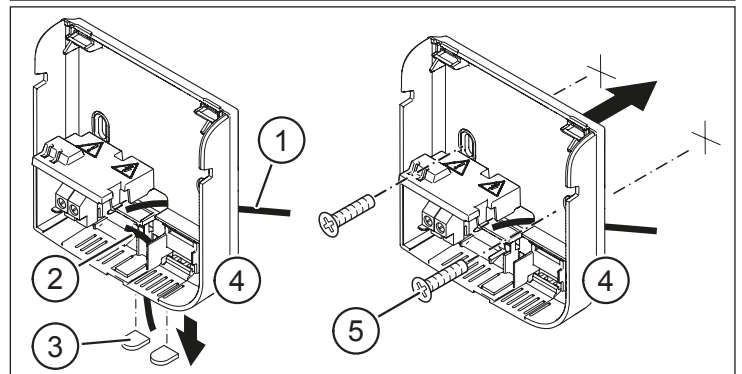

Fig. 3: Introducing the mains cable and fixing the housing to the wall
- ▶ Introduce the mains cable into the housing (item 4 in Fig. 3) from behind (item 1 in Fig. 3) or from below (item 2 in Fig. 3). If appropriate, break out the plastic tabs (item 3 in Fig. 3) on the bottom cable inlet.
- ▶ Use the screws and dowels provided (item 5 in Fig. 3) to fix the housing in the desired position.
- ▶ Swivel the cover down until you hear it snap into place in the housing (see Fig. 3).